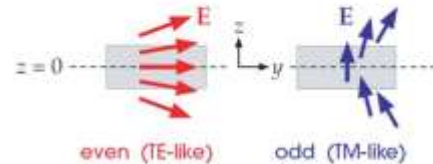

Figure 1: Schematic depiction of electric field lines (E) for a thin dielectric structure (grayshading) with a $z=0$ mirror symmetry plane.
- The electric field profiles of modes that are either even or odd with respect to z reflections are schematically shown in figure 1.